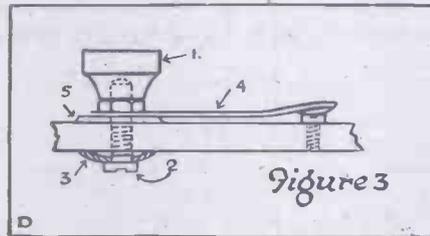

Figure 3.
1. Knob tapped for 2 B.A. screw. (Fig. 3).
The first thing is to make a frame of the moulding, as in Fig. 3, of such a size that the rebate opening just takes the ebonite panel to be mounted,